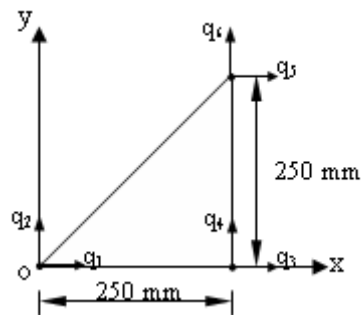

Figure 5:
6. Calculate the element stresses for the element shown in Figure 5 for plane stress and plane strain condition when nodal displacements are as given below: $q_1 = 0$, $q_2 = 0$, $q_3 = 0.001\text{mm}$, $q_4 = 0.002\text{mm}$, $q_5 = -0.003\text{mm}$ and $q_6 = 0.002\text{mm}$ $E = 200\text{GPa}$, $\nu = 0.25$, thickness = 20mm . [16]